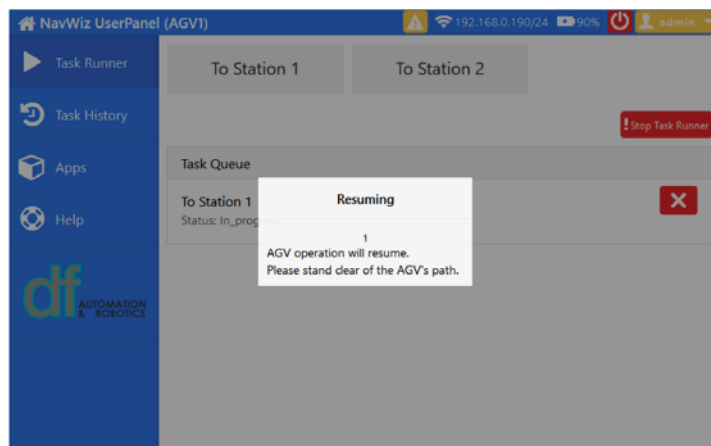

Fig. 3.25: Resuming Message
- iii. A **Resuming** message as shown in Fig. 3.25 will be shown on the **LCD Touchscreen**.